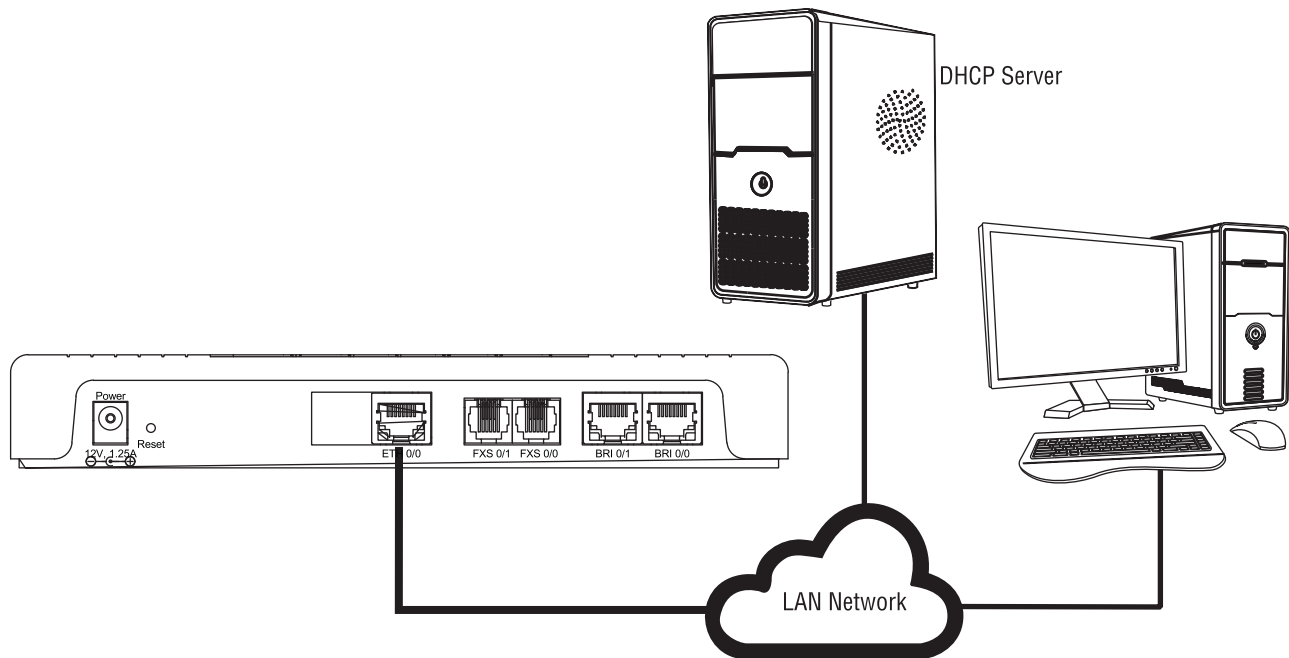

Figure 14. Connecting SmartNode device and PC to a LAN with DHCP server.
- The SmartNode device is connected to a local area network (LAN) that has a DHCP server running which assigns an IP address to the SmartNode device (see figure 14). Using the *SN Discovery tool*, the SmartNode device's IP can be determined.